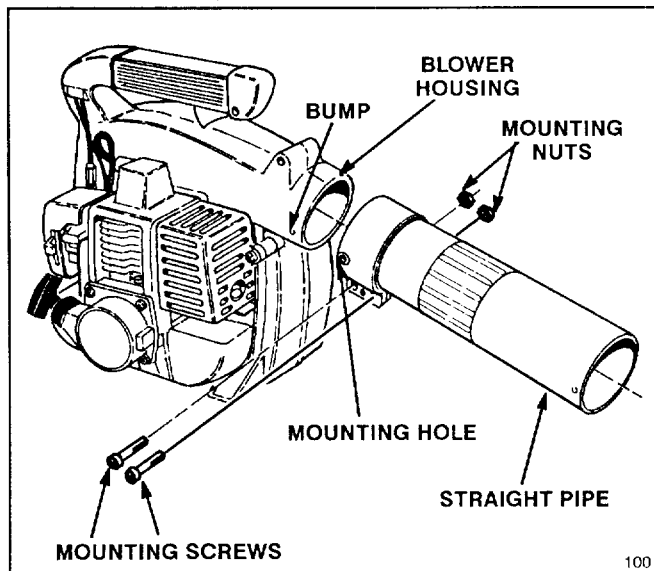

Figure 1
### INSTALL BLOWER PIPES TO BLOWER HOUSING (Fig. 1 & 2)
2. Slide a straight tube onto blower housing as shown in Fig. 1. Bumps on blower housing must engage holes in pipe.